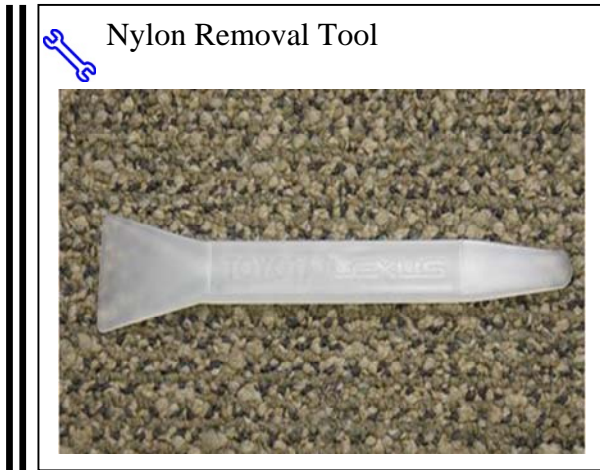

Fig. 2-6
**⚠ NOTE:** The recommended removal technique is with use of a Nylon Removal Tool (NRT) (Fig. 2-6). Begin by positioning the tip of the NRT against the leading edge of the DEG on the outside face of the door. Gently tap the NRT just below the top of the DEG to begin disengaging the DEG, and tapping progressively down the length of the channel until about 3" from the bottom. Finish removal tapping from bottom of DEG working up, catching DEG as it comes off the door.